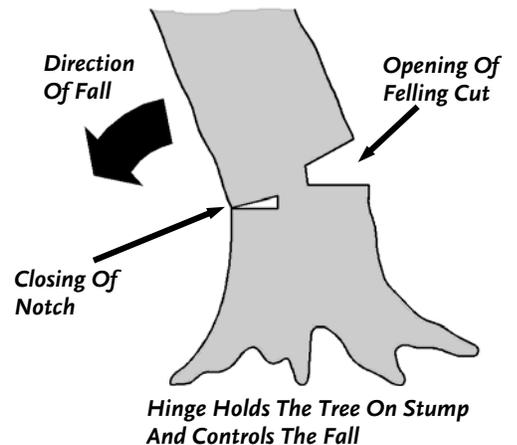

Figure 5
3. Leave enough uncut wood between the felling cut and the notch to form a hinge (**Figure 5**).